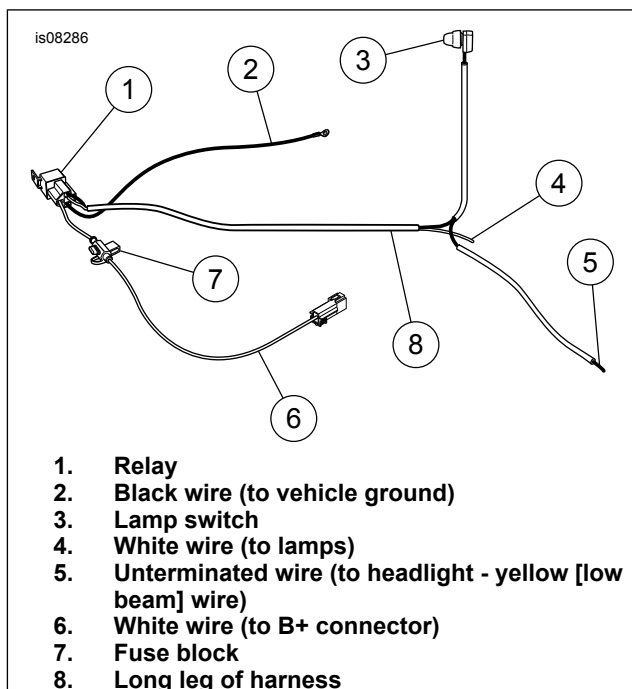
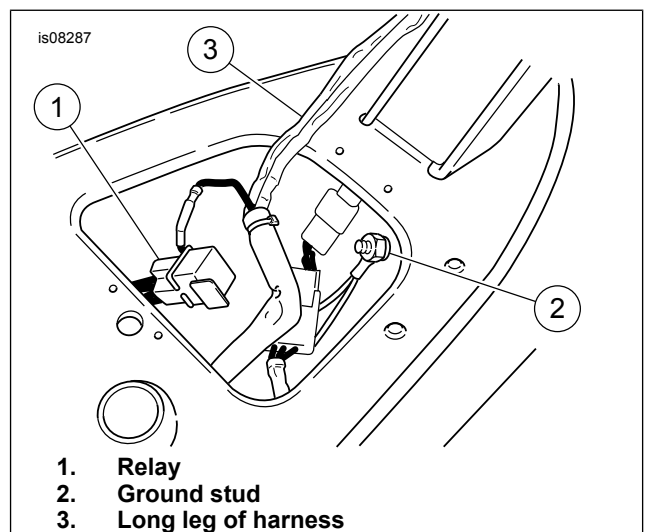
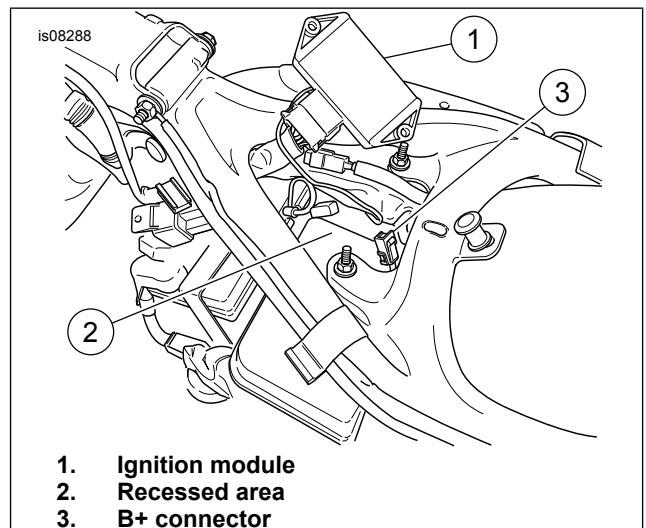

Figure 4. Wiring Harness Component Identification
Figure 5. Install the Wiring Harness (Dyna Model Shown)
Figure 6. Install the Wiring Harness (2004 and Later Models)
See Figure 4 for wiring harness component identification.
11. See Figure 5. Install the wiring harness. Place the relay (1) in the opening in the seat pan, and route the long leg of the harness (3) along the frame backbone. **2004 and later XL models:** See Figure 6. Remove the nuts retaining the ignition module (1) and temporarily reposition the module as shown. Place the relay in the recessed area (2) of the oil reservoir. Install the ignition module. Route the long leg of the harness along the frame backbone. **All 2003 and earlier models:** See Figure 4. Cut the connector from the white power lead, and replace it with the ring terminal supplied in the kit. Connect the white wire with the ring terminal to the copper stud (BAT) terminal of the main circuit breaker. **All 2004 and later models:** Connect the white wire with connector to the B+ connector on the motorcycle's harness.
12. See Figure 4. Connect the black ground wire (2) with the ring terminal to the ground stud under the seat, or at any good electrical ground point. Secure the kit harness to the adjacent harnesses with cable straps (Item 16) from the kit.
13. See Figure 4. Route the harness past the steering head, and route the lamp switch (3) leg of the harness along the left side of the handlebar to the clutch control.